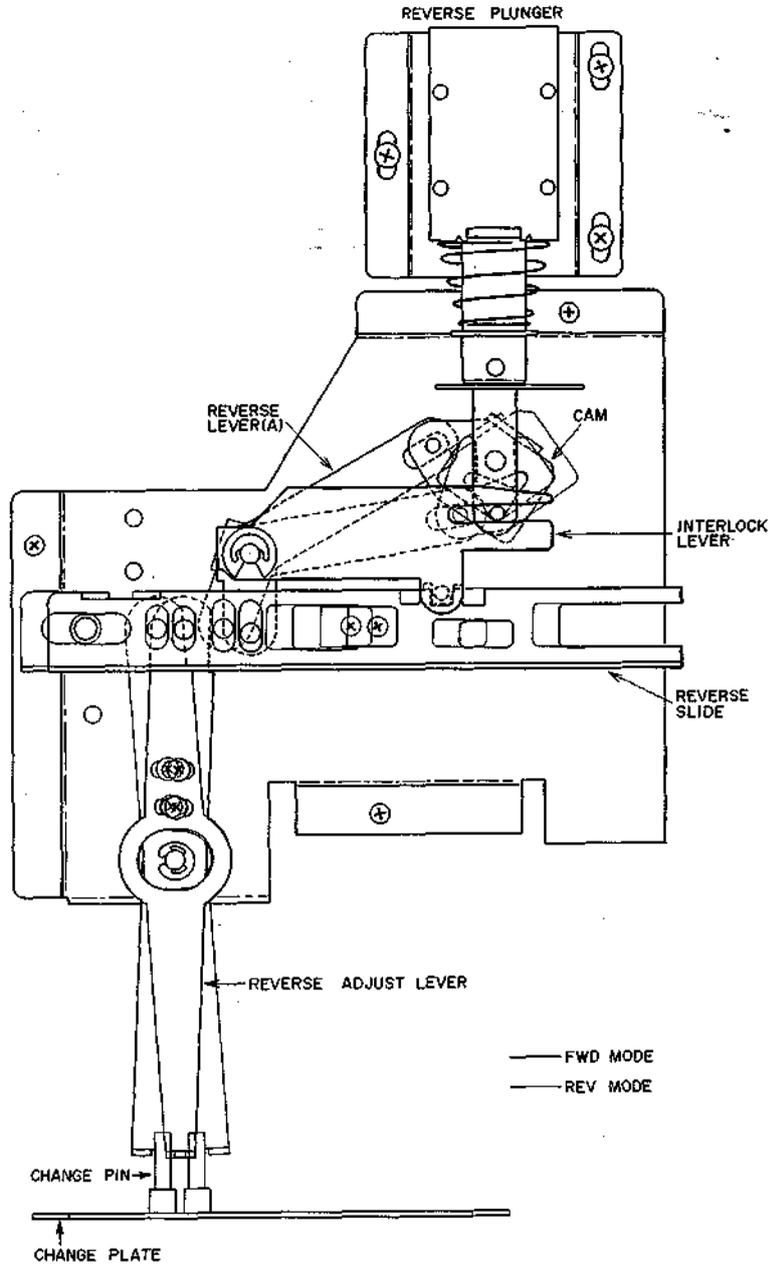

Fig. 4
- Figures 4 and 5 indicate the position of each lever, etc. at FWD mode and REV Mode. The red lines show the changes positions when the Mode is switches to REV. The change from FWD to REV, or vice versa, is accomplished by depressing the Direction Switch or by the instantaneous movement of the reverse plunger when the leader tape is detected by the detector tape guide. (Refer to VI. Sys Con Operation: Explanation of the Reverse Plunger)
3. In the REV Mode, the Change Plate moves to the right as shown by the red line in Fig. 4 and the situation becomes quite contrary to that in the FWD Mode. The Take-up Idler(R) is separated from the reel table(R) and Take-up Idler(L) goes in contact with the reel table(L) so that the tape is taken-up in the REV direction.
At the same time, Pin Pressure Plate(A) and (B) shift as shown by the red lines in Fig. 4. This causes the Pinch Roller(R) to separate from the capstan and the Pinch Roller(L) to come in contact with the capstan so that the tape is sent in the REV direction.